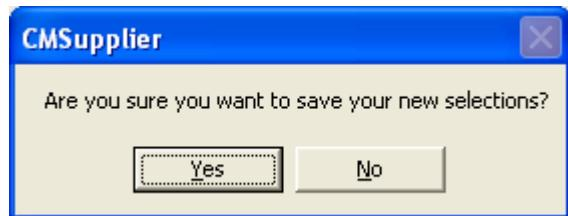

Figure 249
7. You will be prompted to save your selections (Figure 249). To save your changes, select 'Yes'. A confirmation message will be displayed. Select 'OK' to finish.